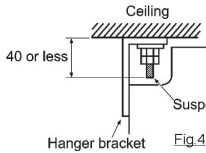

Fig.4
- Adjust the distance from the unit to the ceiling slab beforehand (Refer to Fig.4)